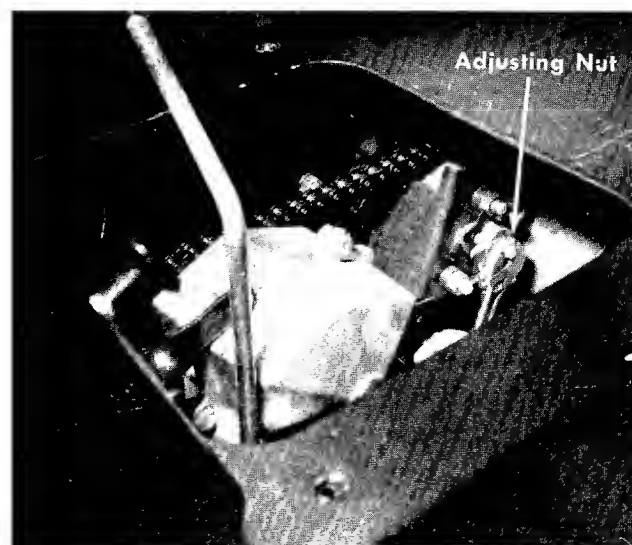

FIGURE 36. BRAKE ADJUSTMENT
- Step 3. Try and push the rider. If the rider can be moved tighten the brake adjustment nut as shown in figure 36.